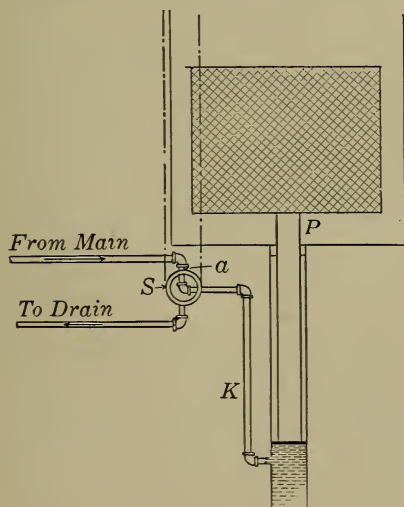

FIGURE 288. — THE HYDRAULIC ELEVATOR.
**310. The Hydraulic Elevator.**—The hydraulic elevator (Figure 288) uses the principle ex-